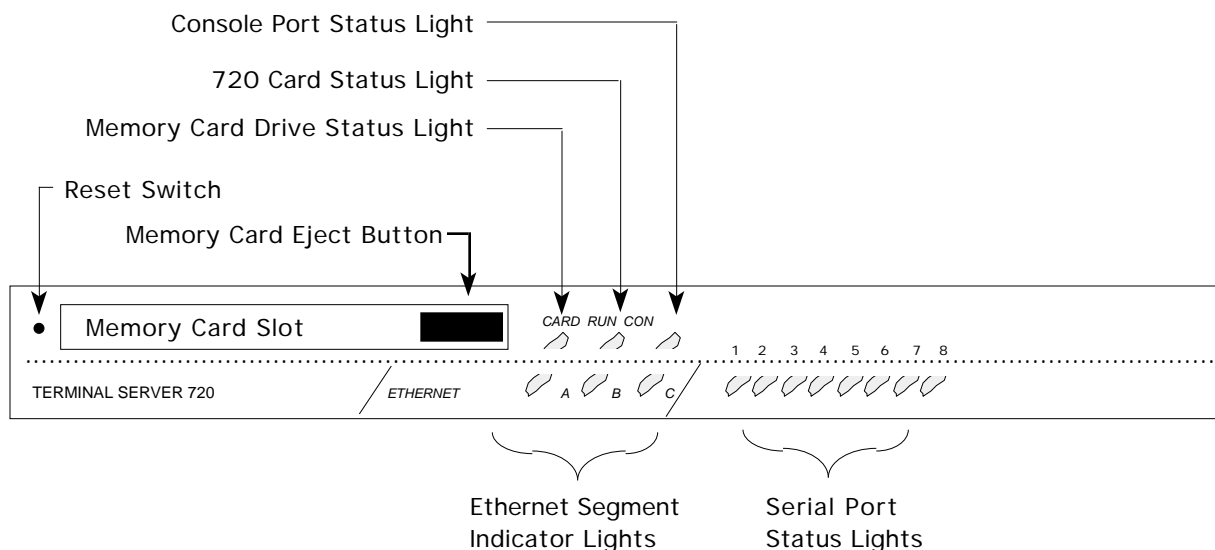

Figure D-2. Reset Switch Location
The Ethernet (A, B, or C) light on the front panel (see Figure D-2) illuminates as soon as the terminal server detects network activity (normally about 2 seconds). Within 15 seconds the unit transmits software load requests on the network or begins to load from the memory card.
2. Look for the small hole to the left of the Memory Card Slot (see Figure D-2).